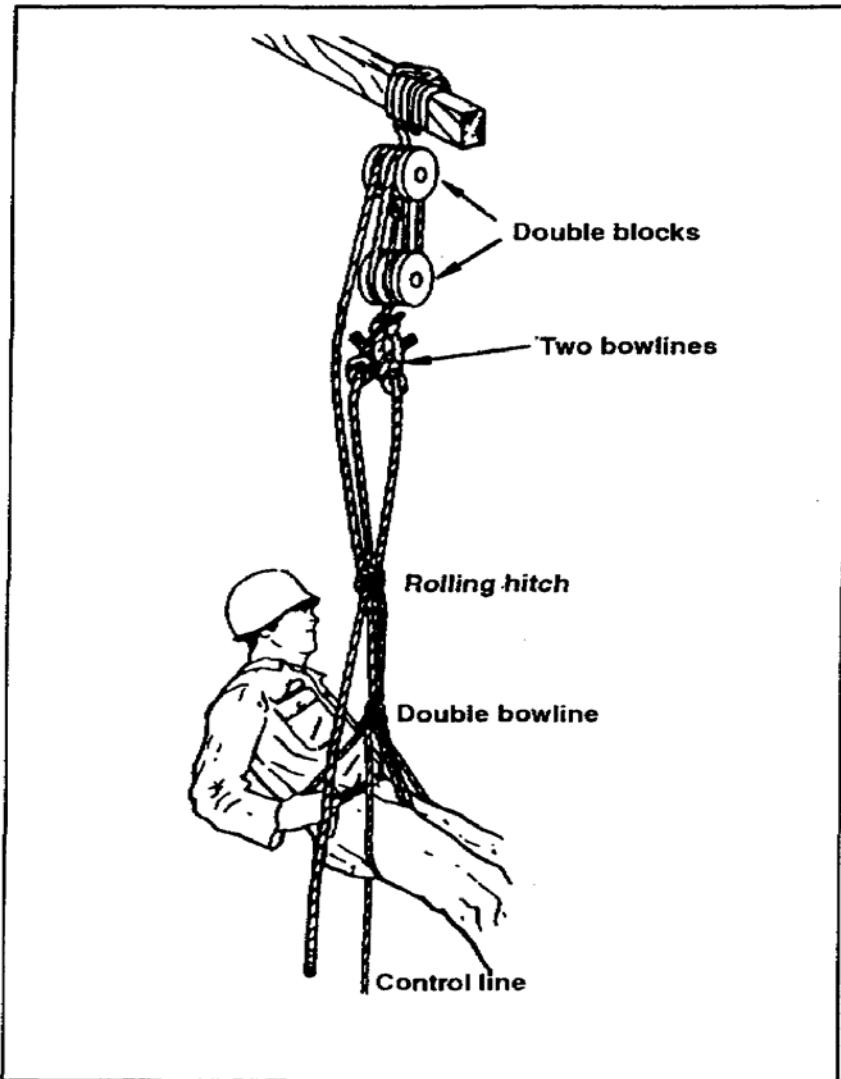

Figure 4-21. Boatswain's chair with suspending tackle
(2) The boatswains chair with suspending tackle (Figure 4-21) is supported by securing block and tackle to the building's roof, ceiling joists, or rafters. Before using the chair, ensure that it is attached securely. You can either raise or lower yourself or be assisted by a person on the ground. When working alone, the fall line (control) is attached to the suspending tackle (two double blocks) with a rolling hitch. The fall line allows you to lower yourself. When receiving assistance from the ground, the fall line should be tied to a tree or a building member that will hold your weight.